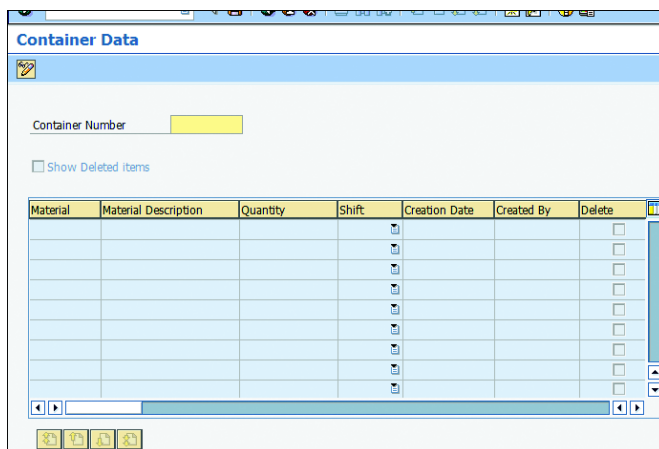

Figure 12.49 Initial Screen of Transaction
- Provide a table control as shown in Figure 12.49. Note that the SHIFT field is a list box and the DELETE field is a checkbox.
The application should eventually look like Figure 12.49.